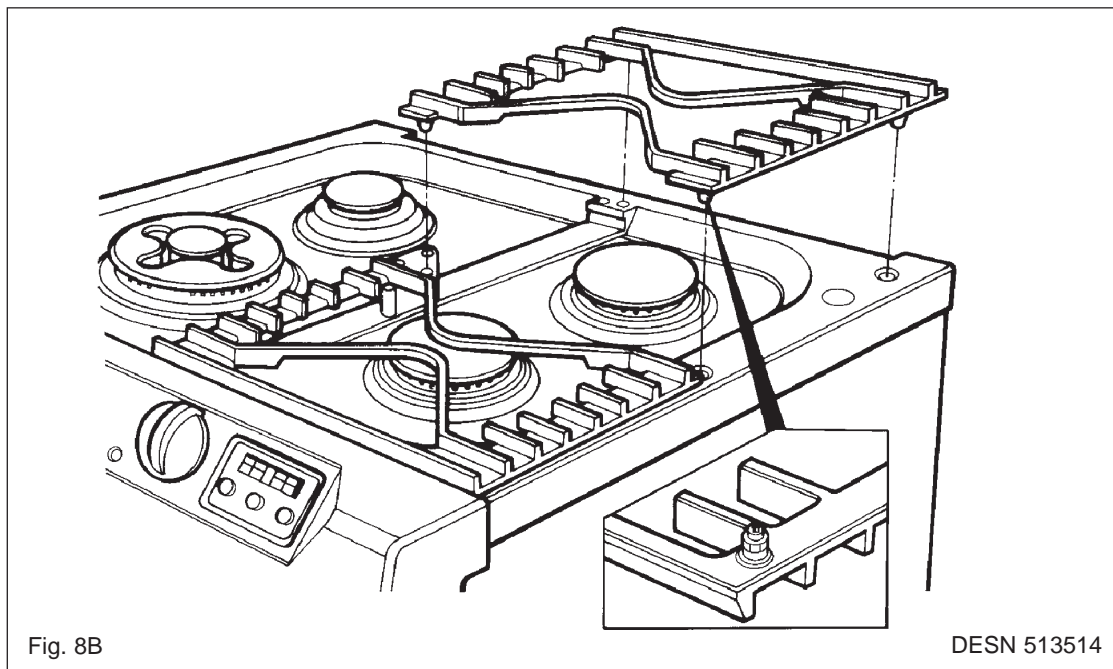

Fig. 8B
1. Loosen retaining nut using 8mm spanner (See Fig. 8B).